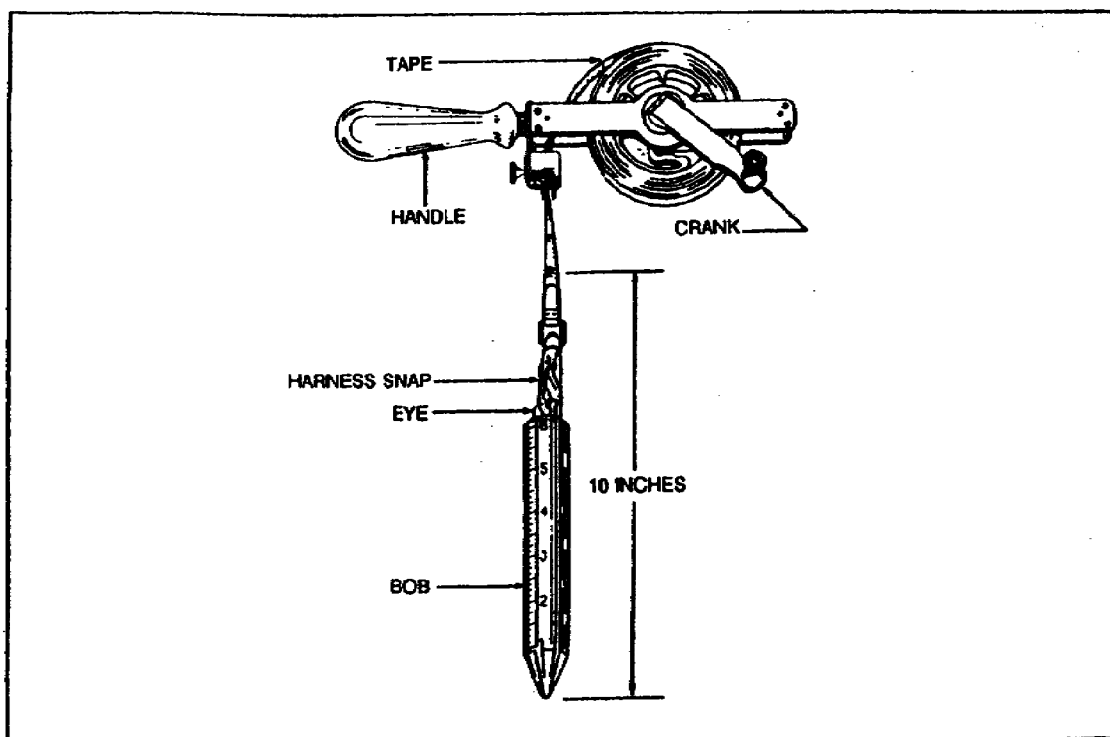

Figure 1-1. Innage tape and bob.
(1) Innage Tape and Bob. The innage tape and bob is a steel tape with 1/8-inch graduations. The first whole number on the tape is 9 or 10. Consequently, it is 9 or 10 inches from the pointed tip of the conical bob to the first number on the tape. From the tip of the bob to the top of the eyelet is 6.6 inches. The bob is made of nonsparking metal and the zero point is at the bob's tip. Refer to Figure 1-1 for an illustration of an innage tape and bob. Use the innage tape and bob to determine the distance from the surface of the product to the bottom of the tank.